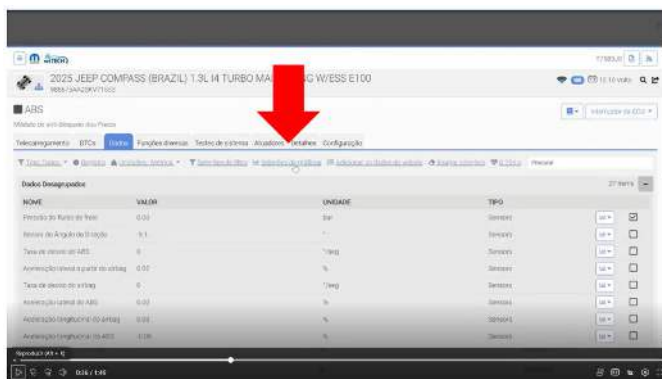

Fig. 5
7. Select the graphics function Fig. 5.